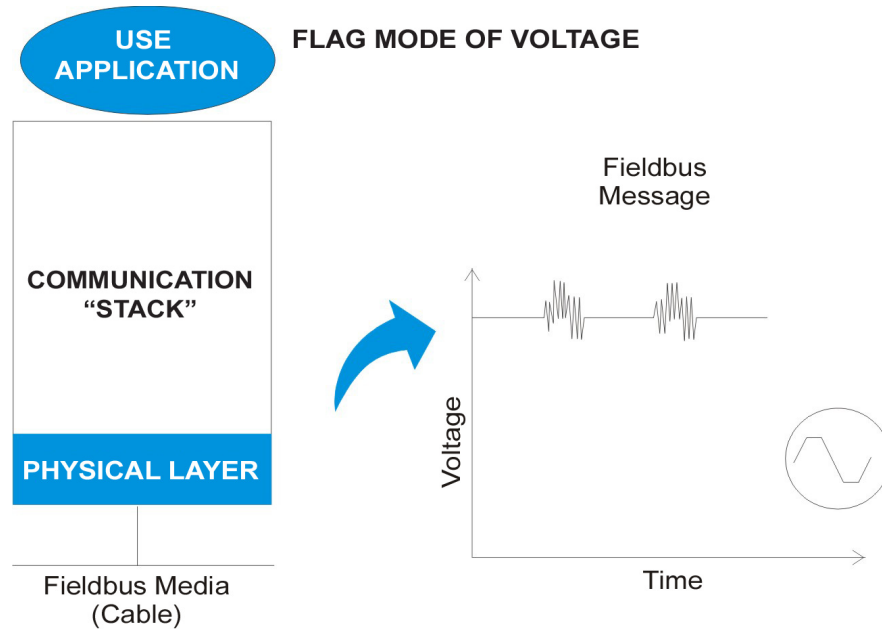

Figure 3.44 – 31.25 kbit/s Voltage Mode
An equipment transmission supplies 10 mA to 31.25 kbit/s in a load equal to 50 Ω , creating a peak to peak 750 mV to 1.0 V modulated signal voltage. The power supply can provide 9 to 32 VDC, but in safe applications (IS) it should meet the requirements of the intrinsic safety barriers. See Figure 3.44.